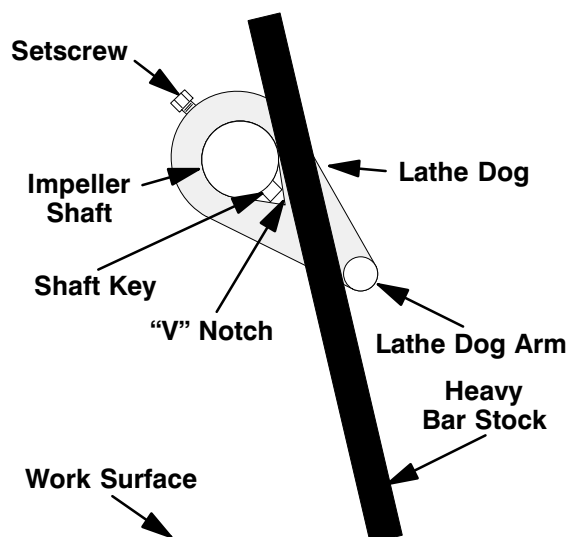

Figure 3. Blocking Shaft Rotation
Use a long piece of heavy bar stock and the lathe dog on the drive end of the shaft as shown in Figure 3 to block shaft rotation. **Use caution** not to damage the shaft or keyway.
Align the hole in the impeller washer (5) with the roll pin in the impeller and install the washer. Apply “Loctite Threadlocker No. 243” or equivalent compound to the threads of the impeller screw (28). Block impeller shaft rotation as shown in Figure 3 and torque the impeller screw to 400 ft. lbs. (55,3 m. kg.).